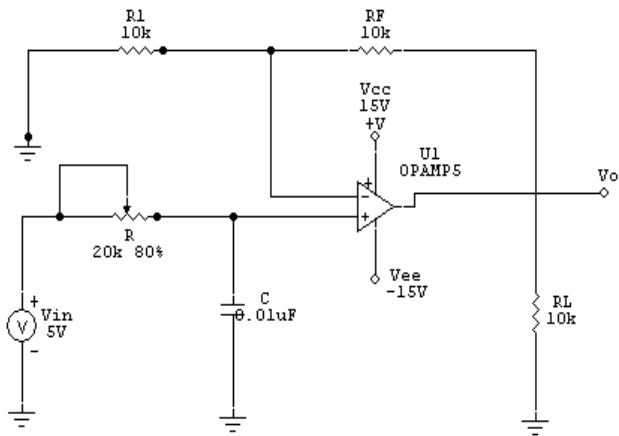

Fig: 5a Low Pass Filter
1. For the low pass filter, make the circuit as shown in Fig. 5a. Feed ac signal of 5V peak to peak and measure the output voltage by varying the frequency of the input signal from 100Hz-1MHz. Study and plot the voltage gain as a function of the frequency. Determine the cut off frequency and calculate the allowed frequency band for the low pass filter. Check if there is any change in phase shift of the signal with frequency.